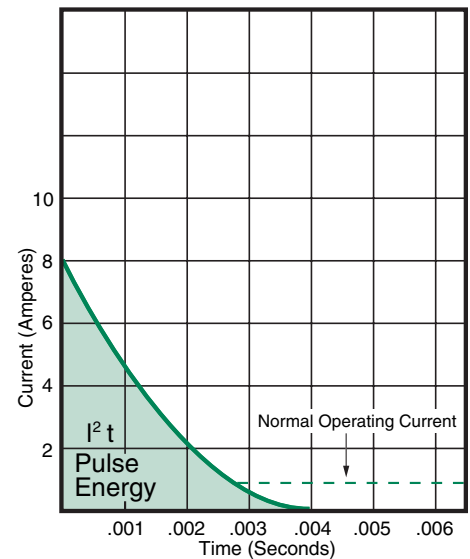

Figure 1
Example: Select a 125V, very fast-acting PICO® II fuse that is capable of withstanding 100,000 pulses of current (I) of the pulse waveform shown in Figure 1. The normal operating current is 0.75 ampere at an ambient temperature of 25°C.